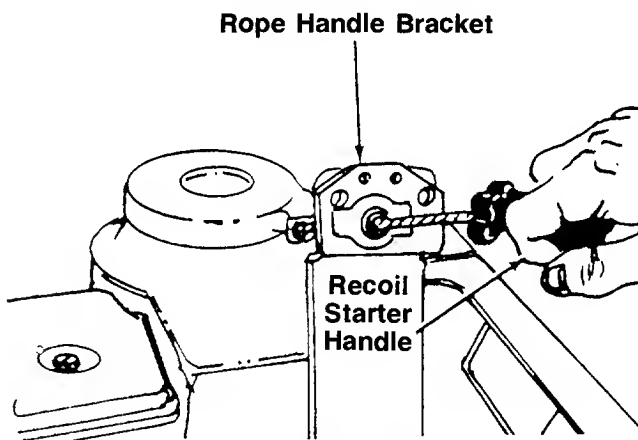

FIGURE 22.—Recoil Start Model
The recoil starter handle is located on the left rear side of rider. The recoil starter handle can be pulled while standing by the left rear side of unit. The ignition key must be on before the engine will start. After the engine starts, the recoil starter handle must be returned and locked into the rope handle bracket before the blade or clutch is engaged. The engine will stop if these instructions are not followed. See figures 22 and 23.
7. a. **Recoil Start Units:** Turn the ignition key to the **ON** position. Twist the recoil starter handle until it is free and pull it with a quick steady motion. After the engine starts, return the recoil starter handle and twist it until it locks. See figure 22.